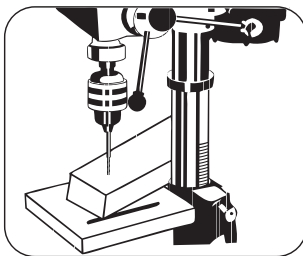

FIGURE 8.20
- The wood must be in contact with the left side of the column (Figure 8.20).